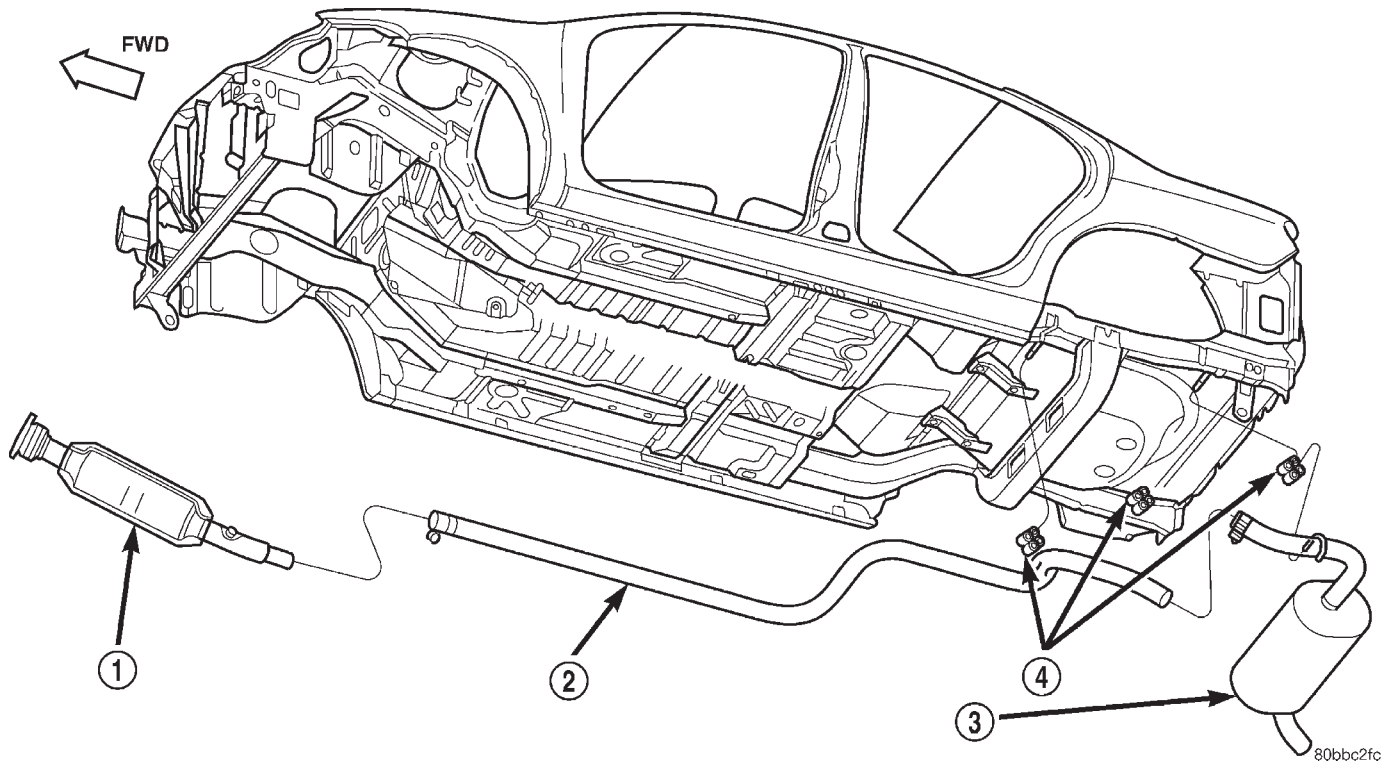

Fig. 7 Catalytic Converter, Intermediate Pipe, and Muffler
(2) Remove exhaust system ground strap.
(3) Loosen band clamp and remove support isolators at muffler. Remove muffler from exhaust pipe (Fig. 7).
(4) Loosen band clamp at the catalytic converter to intermediate pipe joint (Fig. 7)
(5) Remove intermediate pipe support isolator. Separate at slip joint and remove intermediate pipe (Fig. 7).
(6) Clean ends of pipes and muffler to assure mating of all parts. Discard broken or worn isolators, rusted or overused clamps, supports, and attaching parts.
(1) Assemble intermediate pipe to catalytic converter and the isolator support to the underbody (Fig. 7).
(2) Install the muffler to intermediate pipe and the isolator supports to the underbody.